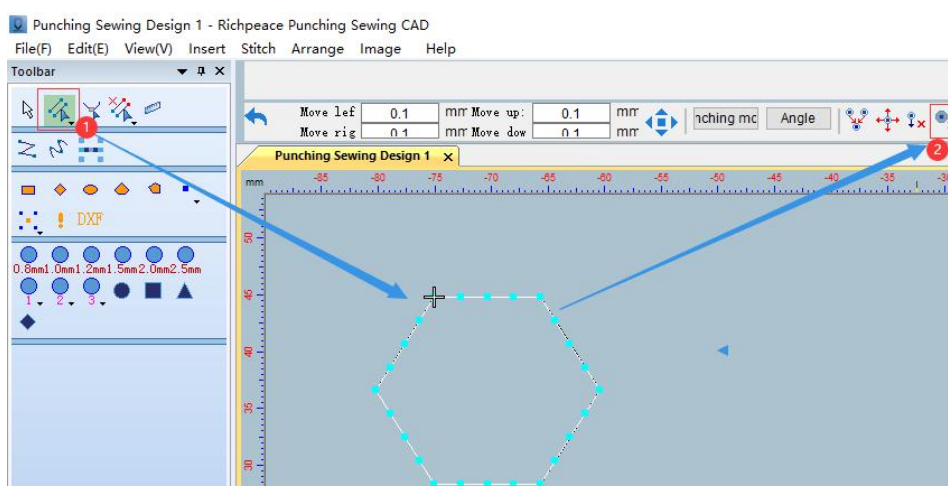
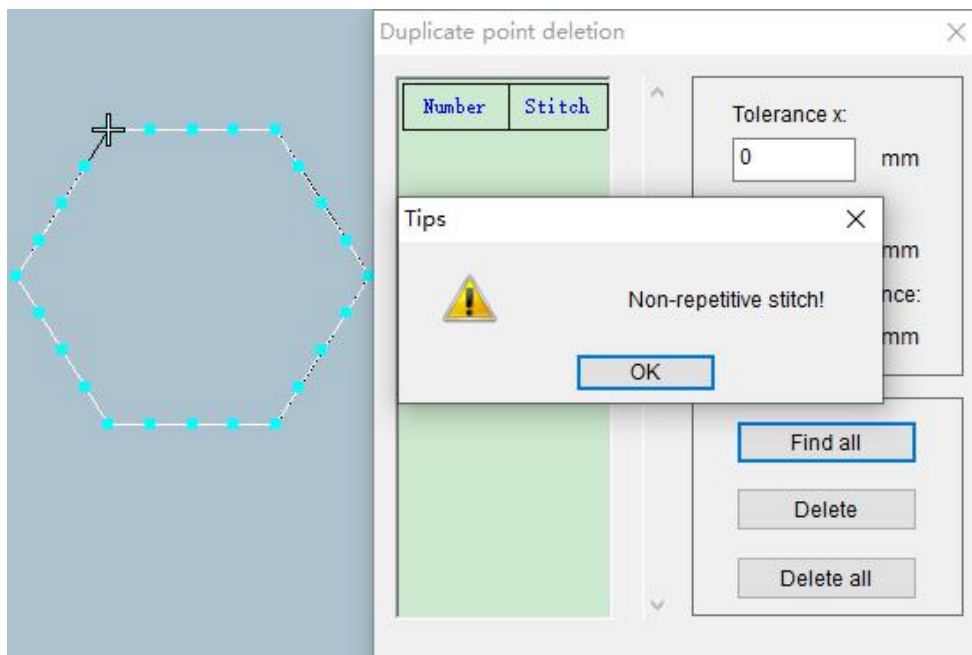

图 1 Picture1
图 5 Picture5
**Operation:** Use the stitch editing tool to select the graphic, click the duplicate point to delete as shown in Figure 1, and the dialog box shown in Figure 2 will appear, click Find All. As shown in Figure 3, clicking the serial number graph will display duplicate points, with \* indicating that two duplicate points are found. You can choose whether to delete the previous point or the next point. Click Delete to delete the selected point. After deleting the duplicate points, the remaining points are shown in Figure 4, click to find all, if there are no duplicate points, it will prompt "No Duplicate Stitches" as shown in Figure5